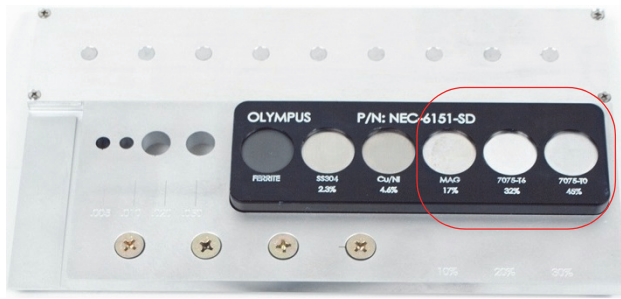

Figure 5-79 The section of the standard used for conductivity evaluation
6. Place the probe on the 45 % conductivity sample (see Figure 5-79 on page 185), and then press and hold the A-LIFT NULL key () to activate the automatic liftoff function.